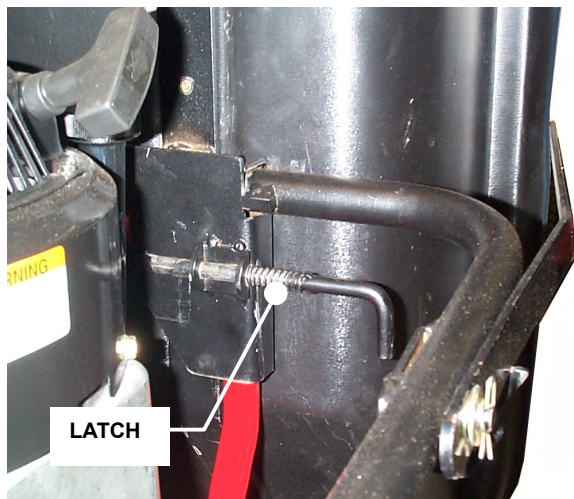

FIGURE 1.5
- B. Place Front Cover Assembly over rear bumper and secure in place with spring loaded latch. See Figure 1.5.